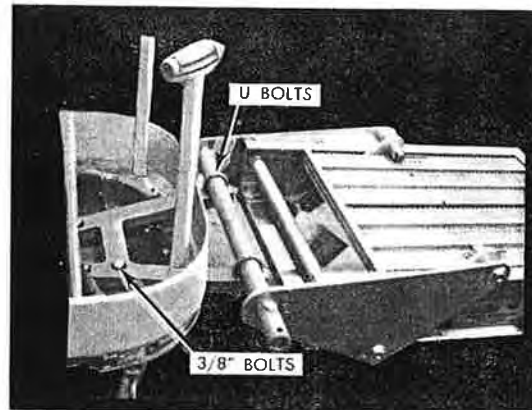

Figure 27
**Ladder Type Aluminum Plans To Model ST-19 (Fig. 27)**